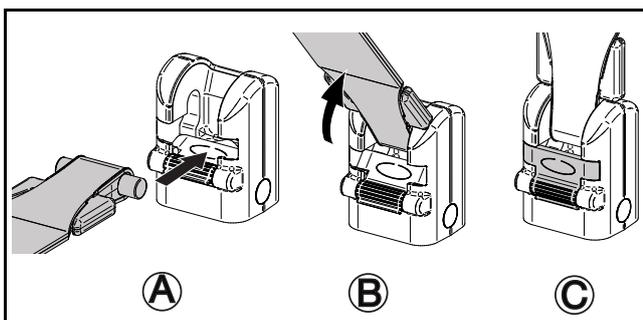

Fig. 5
- 5) Insert the strap of the stretcher frame with the pivot into the quick connect by pushing it inward (see Fig. 5 A).
- 6) Rotate the strap upward (see Fig. 5 B).
- 7) Ensure that the latch is closed (see Fig. 5 C).